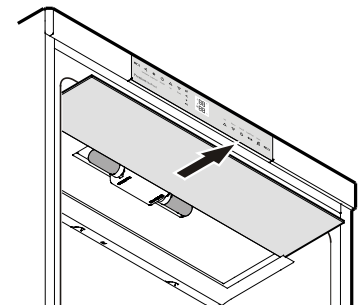

Figure 14
2. Remove the glass plate - **Fig. 14**.